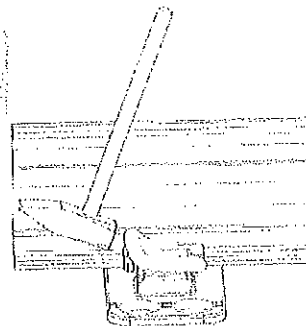

Fig. 31-Beat on the band of the E-Clip
1. Removal of the E-Clip by an impact to the front bend of the clip by means of a soft faced hammer, Fig. 31.